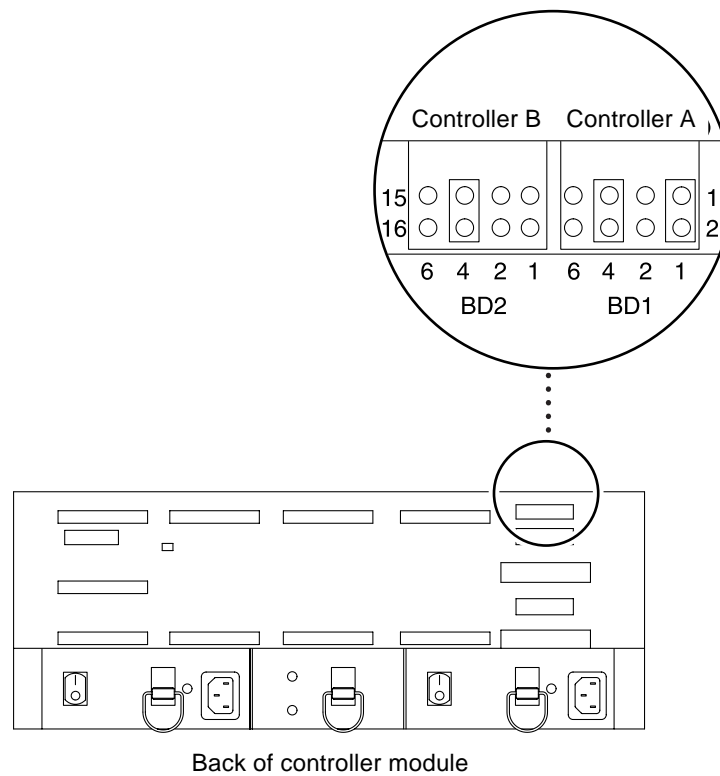

FIGURE 1-14 Setting the Host SCSI ID for the Controllers
1. Locate the 16 pins on the back side of the controller module (FIGURE 1-14).
2. Wearing the antistatic wrist strap, install jumpers on the pins as shown in FIGURE 1-14.